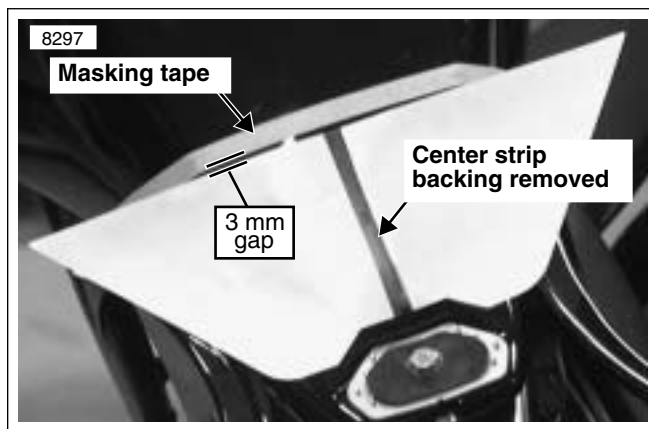

Figure 1. Applying Protective Strip to Fuel Tank
1. See Figure 1. Push down firmly on seat and apply a strip of masking tape to the fuel tank at the seam formed where the seat meets the fuel tank.